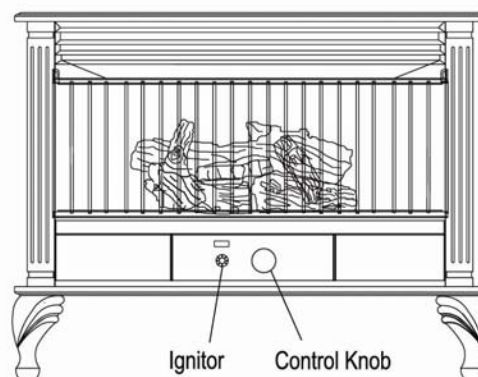

Figure 20
3. Turn control knob clockwise to the OFF position, see Figure 20.
4. Wait five (5) minutes to clear out any gas. Then smell for gas around heater and near floor. If you smell gas, **STOP!** Follow "B" in the safety information on Warnings plate. If you don't smell gas, go to the next step.
5. Turn control knob counterclockwise to the PILOT position. Keep control knob pressed in for five (5) seconds. **Note:** You may be running this heater for the first time after hooking up to gas supply. If so, the control knob may need to be pressed in for 30 seconds. This will allow air to bleed from the gas system. If control knob does not pop up when released, contact a qualified service person or gas supplier for repairs.
7. Keep control knob pressed in for 30 seconds after lighting pilot. After 30 seconds, release control knob. **Note:** If pilot goes out, repeat steps 3 through 7. This heater has a safety interlock system. Wait one (1) minute before lighting pilot again.